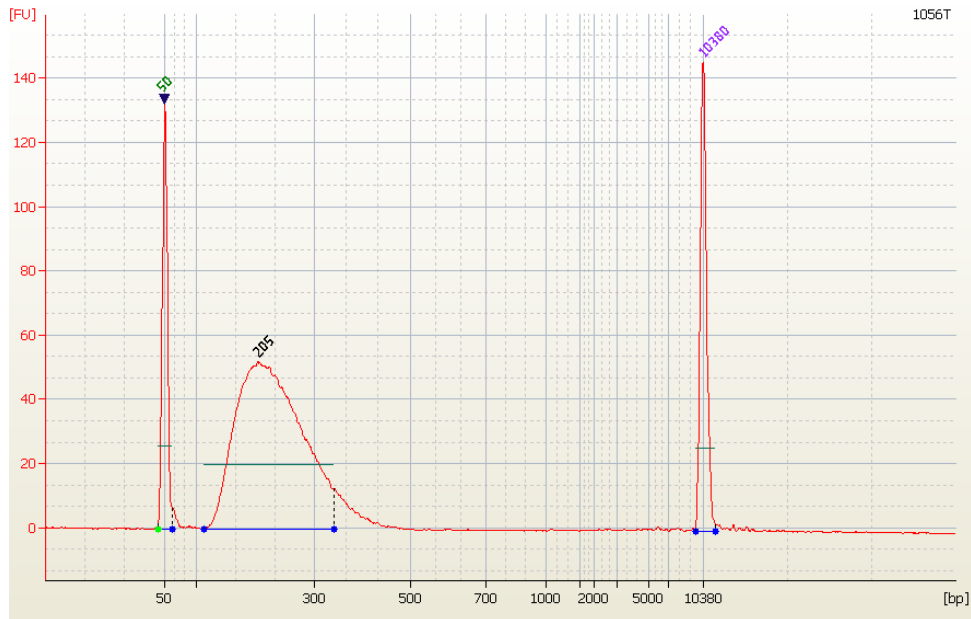

Fig. 5 Example Post-capture LM-PCR DNA library on Agilent Bioanalyzer 2100 DNA 7500 Chip
- Quantitate the purified DNA with NanoDrop and PicoGreen. Run an Agilent Bioanalyzer 2100 DNA Chip 7500 to check product size distribution and verify that the primers have been removed (see Fig.5 for example).